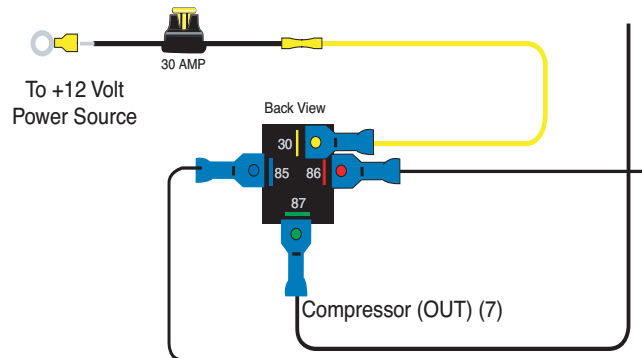

fig. 13
- Using a butt connector, attach the 12 gauge wire from terminal 30 on the back of the relay to one end of the 30 amp fuse holder (Fig. 13).
- If choosing to use the ring terminal, attach it to the other end of the fuse wire (Fig. 13).